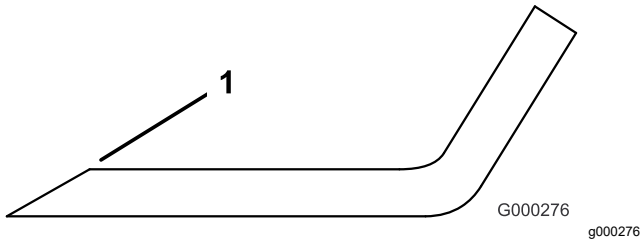

Figure 84
1. Use a file to sharpen the cutting edge at both ends of the blade (Figure 84).
Note: If the blade is not balanced, file some metal off the end of the sail area only (Figure 84).